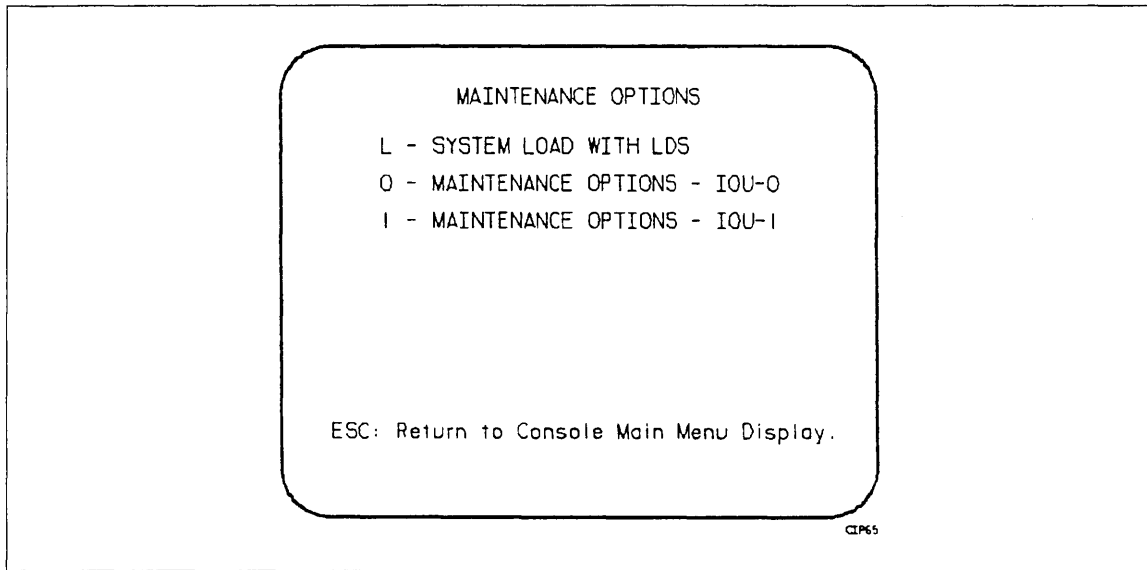

Figure 5-4. Maintenance Options Menu (CC598B Console - Dual IOU System)
- ___ a. Enter M to bring up the MAINTENANCE OPTIONS menu shown in figure 5-4. This menu allows you to select between options IOU0 or IOU1.¹
The bottom line of the DEADSTART OPTIONS display (I1n [except 815/825] or any I4n Class system) identifies which deadstart program is selected and is to be executed. If this is not the desired deadstart program, enter M to bring up the MAINTENANCE OPTIONS display. I4n Class systems having a dual IOU configuration will have an extra MAINTENANCE OPTIONS display, as shown in figure 5-4. This allows you to select IOU0 or IOU1. An operating system deadstart is supported for IOU0 only. If you select IOU1, you will get the MAINTENANCE OPTIONS - IOU1 display. You can only perform a deadstart load of CMSE from IOU1.